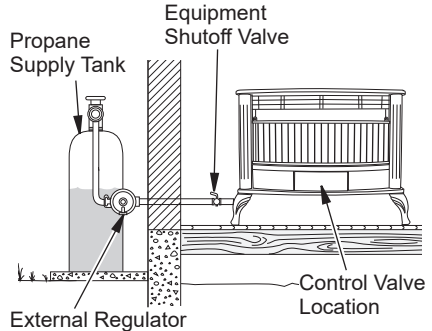

Figure 12 - Checking Gas Joints for Propane Gas
3. Check all joints from gas meter to equipment shutoff valve for natural gas or propane supply to equipment shutoff valve for propane (see Figure 12 or 13). Apply a noncorrosive leak detection fluid to all joints. Bubbles forming show a leak.
4. Check all joints from equipment shutoff valve to control valve (see Figure 12 or 13, page 12). Apply a noncorrosive leak detection fluid to all joints. Bubbles forming show a leak.